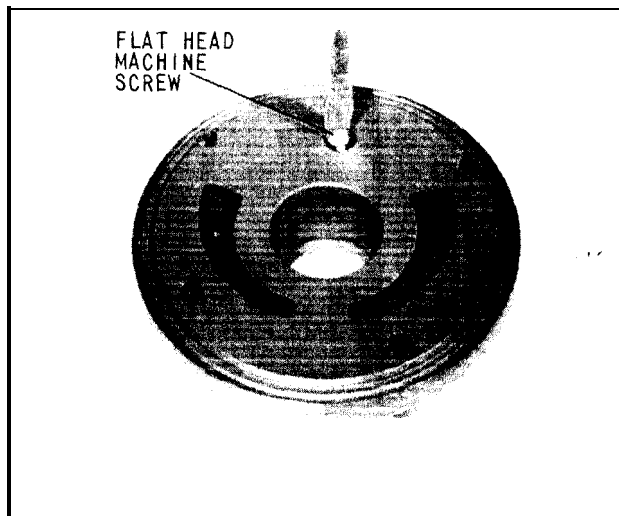

Fig. 96 Installing Flat Head Machine Screw through Sacking Plate
10. Install the flat head machine screw and tighten to final torque of 25 to 35 pounds-inch, (Fig. 96). Check rotation of gears as assembled in pump housing; disassemble and inspect if gears do not turn freely.